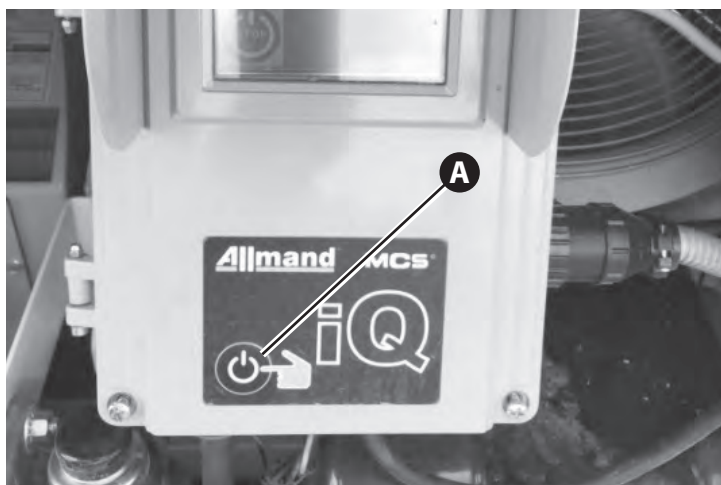

Figure 4.15
1. Press and hold "Start / Stop" on the control module (A, Figure 4.15).